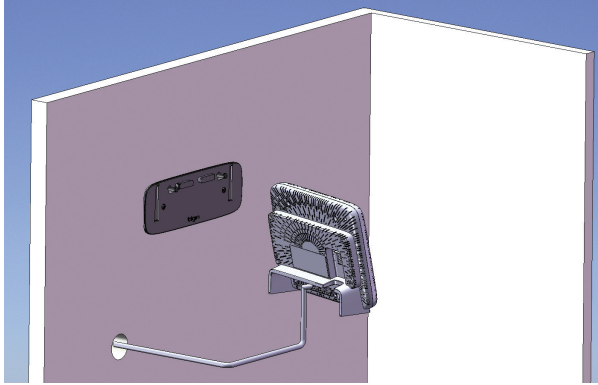

Fig. 4
3. Connect the cables to the ports on the rear panel. Fig 4